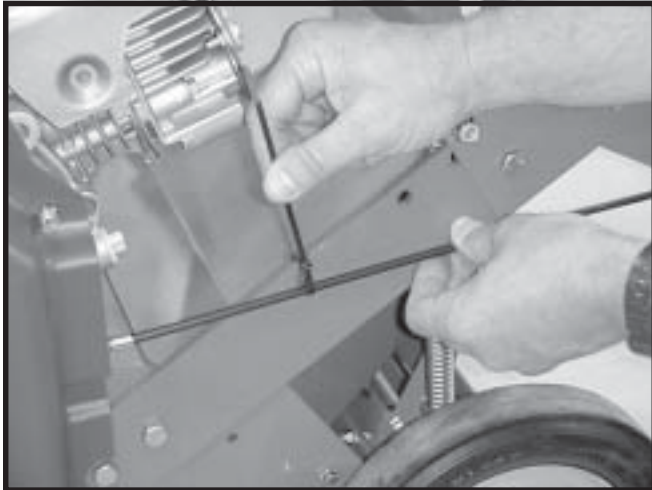

FIGURE 10
22. Wire tie the cable to the handle. See Figure10.